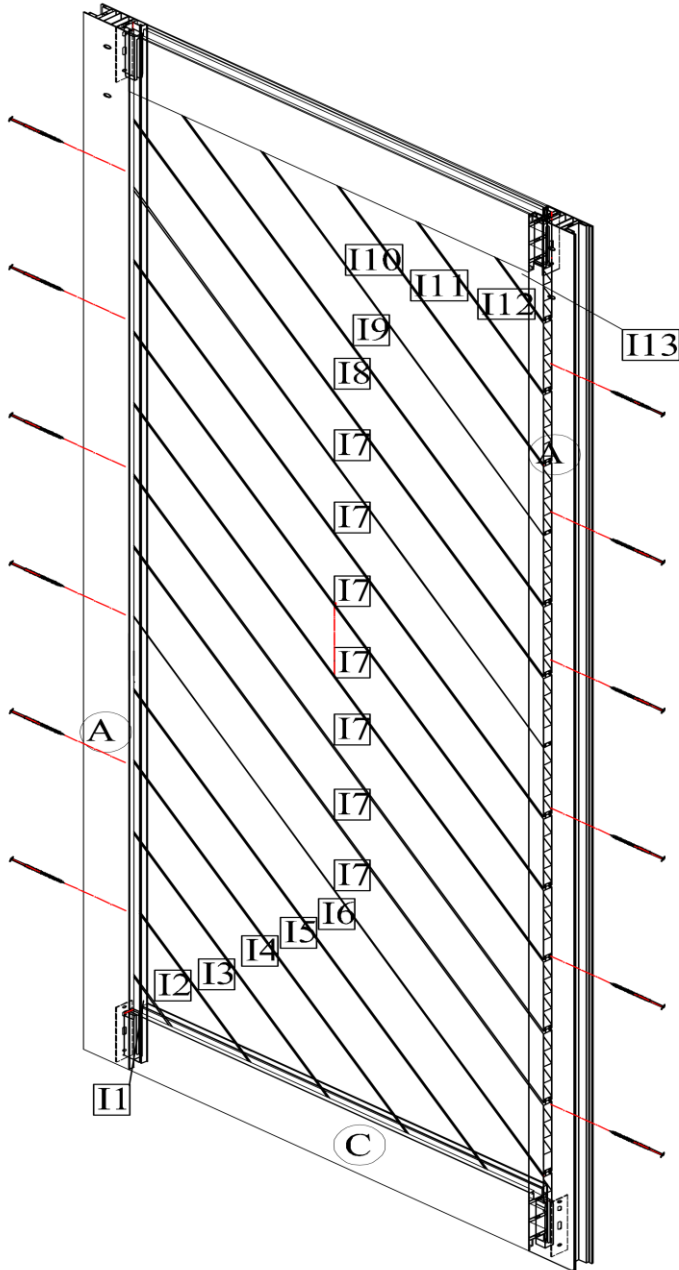
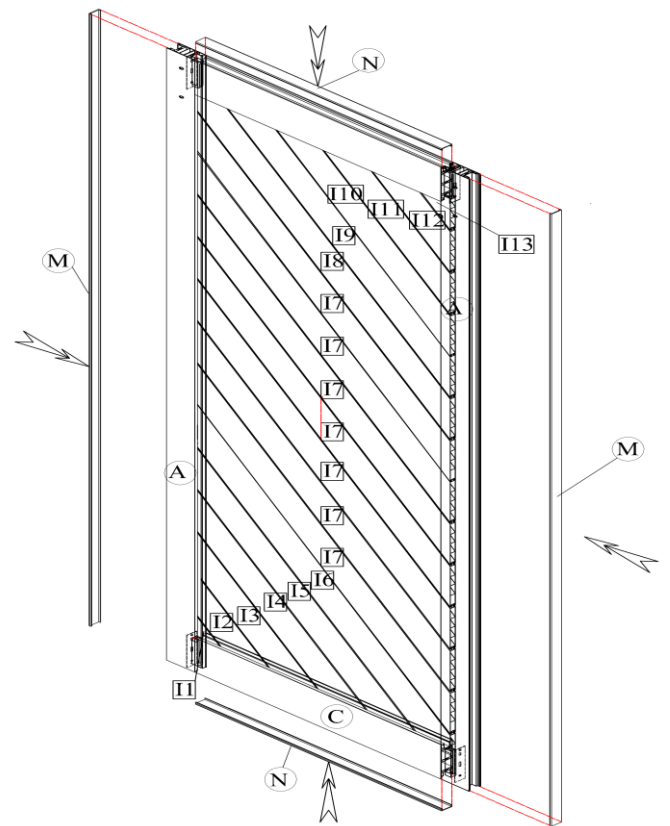

Figure 9A
Figure 9B
Check the door again and make sure that there is not any big gap between the panels of door. Gently tap into place with the rubber mallet if necessary. Insert 12 of the 4" screws (Z) into the 12 holes (6 holes per Door Stile) at the big outward groove of two Door Stiles. Please see **Figure 9A**. Next, snap the finishing strips (M) of two sides into place. Snap the top and bottom strips (N) into place. See **Figure 9B**.